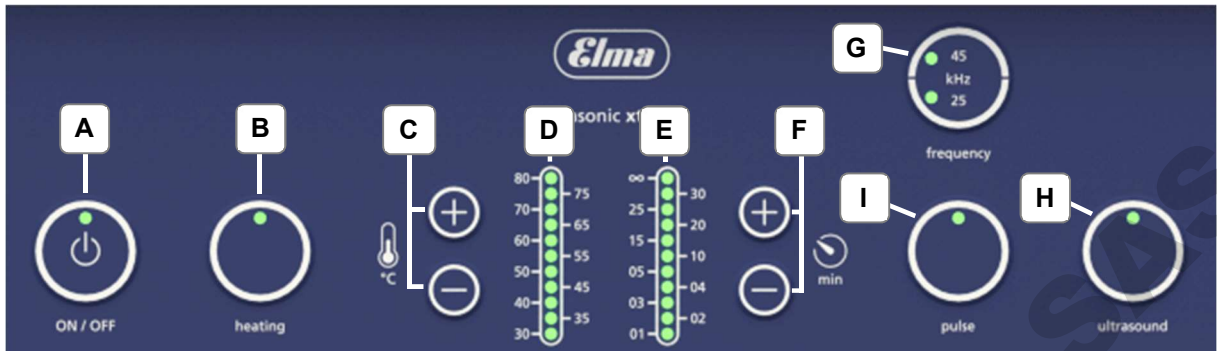

Fig. 4.11 Operating panel
1. Press the key *on/off* (Fig. 4.11.A), the green LED in the key is lighted.
2. Press the key *heating* (Fig. 4.11.B), the green LED in the key is lighted.
3. Set the required cleaning temperature by pressing the +/- keys (Fig. 4.11.C), the LED indicating the set temperature is lighted. The heating process is started and the actual temperature is indicated by the flashing LED (Fig. 4.11.D).
1. Activate the ultrasound at the key *ultrasound* (Fig. 4.11.I). The green LED in the key is lighted.
2. Set the required frequency to 45 kHz at the selector key *frequency* (Fig. 4.11.G). The green LED in the key is lighted.
3. Press the key *pulse* (Fig. 4.11.H). The green LED in the key is lighted.